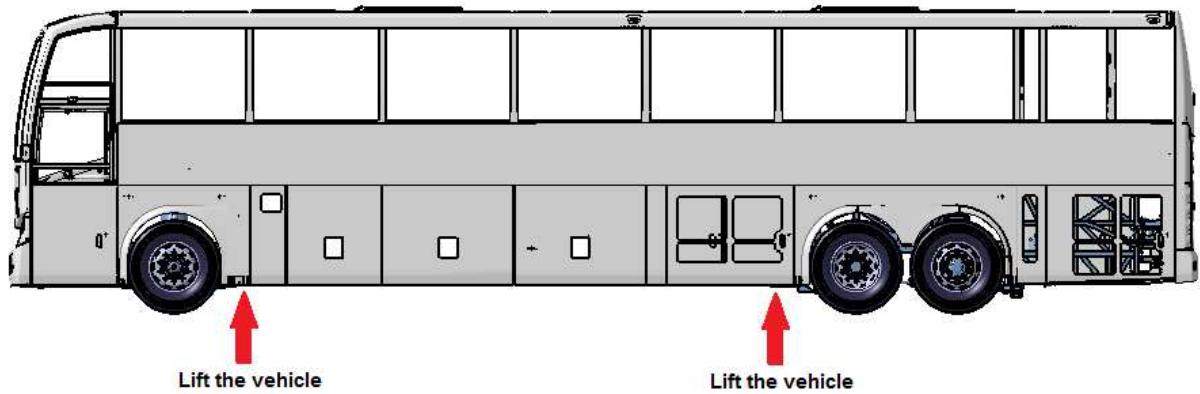

Figure-1
* Lift the vehicle up by using jack, from a jack points shown in Figure-1.